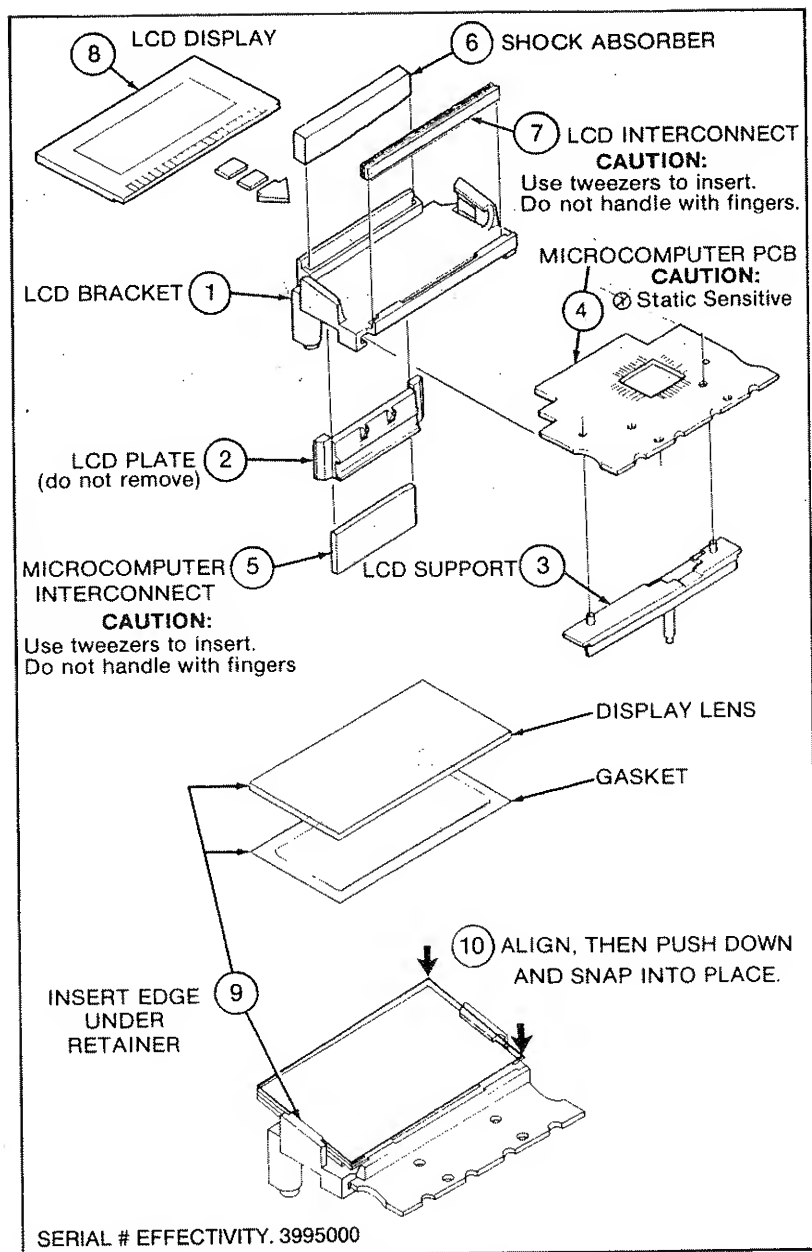

Figure 5-2. Assembling/Disassembling the Microcomputer PCB and LCD
The procedure for disassembling or assembling the LCD and the microcomputer pcb is not difficult, but the steps must be followed in sequence. Before you try the procedure, examine the components in Figure 5-2 and familiarize yourself with the following handling precautions:
- The microcomputer, U5 (item 4 in Figure 5-2), is a static sensitive CMOS device. Follow standard procedures for handling static sensitive devices.
- The LCD interconnect (item 7) and the microcomputer interconnect (item 5) should not be touched with fingers or contaminated. Handle these items with tweezers and keep them clean.
1. Align the LCD display (item 8) as indicated in Figure 5-2 and slide it into place. The bottom edge of the LCD display should compress the LCD interconnect (item 7) and slide underneath the two plastic notches on the LCD bracket (item 1).
2. Refer to Figure 5-2 and follow steps 9 and 10 to complete assembly.
2. Refer to Figure 5-2. Beginning with item 7, remove items 7 through 3 (leave item 2 attached to item 1). Be sure to observe the handling precautions for items 7, 5, and 4.
To assemble the microcomputer LCD, refer to Figure 5-2. Beginning with item 3, assemble items 3 through 7 (in ascending numerical order). Be sure to follow the handling precautions for items 4, 5, and 7.